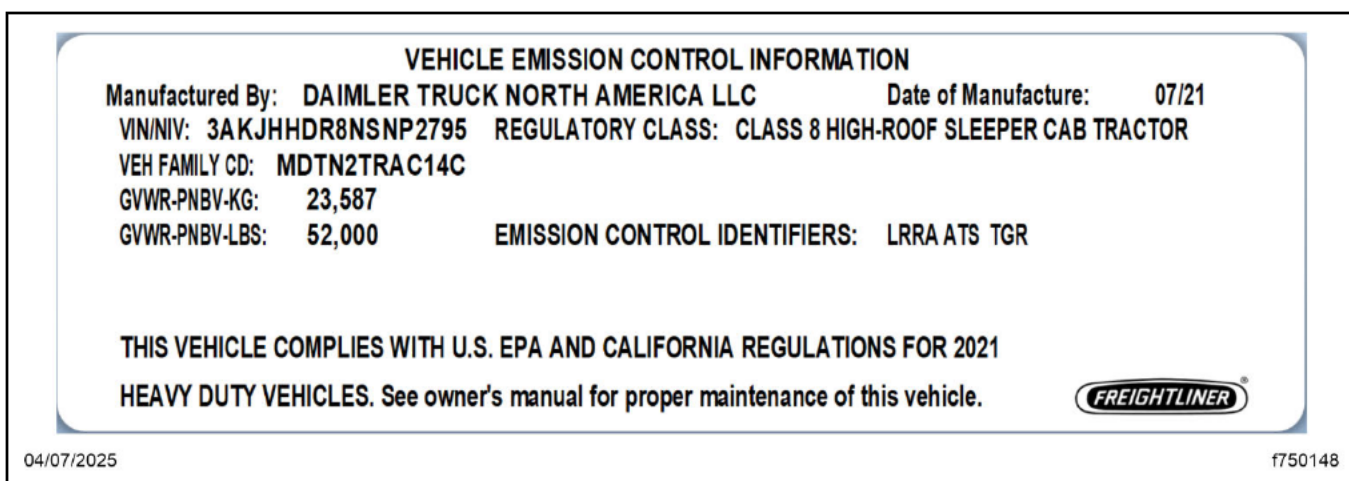

Fig. 2, Example of a VECI Label
- 3.1. Confirm that the label located on the upper part of the B-pillar is the VECI label. Figure 2 shows an example of a VECI label.